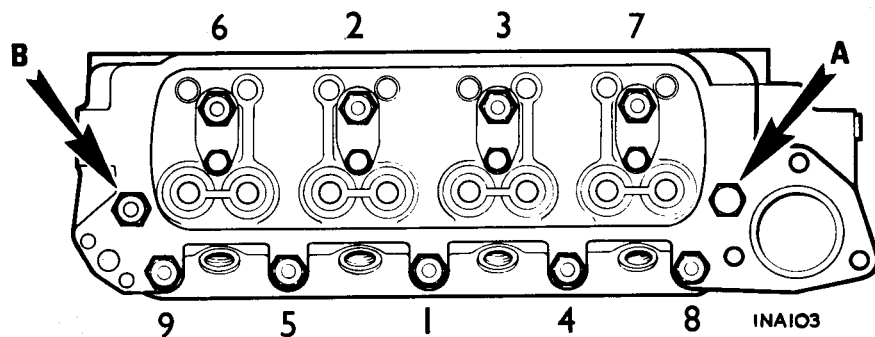

Fig. A.4
4. Slacken the rocker shaft bracket and cylinder head nuts gradually in the order shown in Fig. A.4. When the load is released remove the rocker shaft bracket nuts and the shaft and brackets.
18. Tighten the cylinder head and rocker shaft nuts to the recommended torque and in the order shown in Fig. A.4.
8. **Cooper 'S'**. Remove the bolt (A) and nut (B) before releasing the remaining cylinder head nuts.
9. Progressively slacken and remove the cylinder head nuts in the reverse sequence shown in Fig. A.4.
- b. Progressively tighten the cylinder head and rocker shaft nuts, and finally tighten to the torque figures given in 'GENERAL DATA' and in the sequence shown on Fig. A.4.
**Cooper 'S'**. The additional bolt and nut (Fig. A.4) must be tightened last.